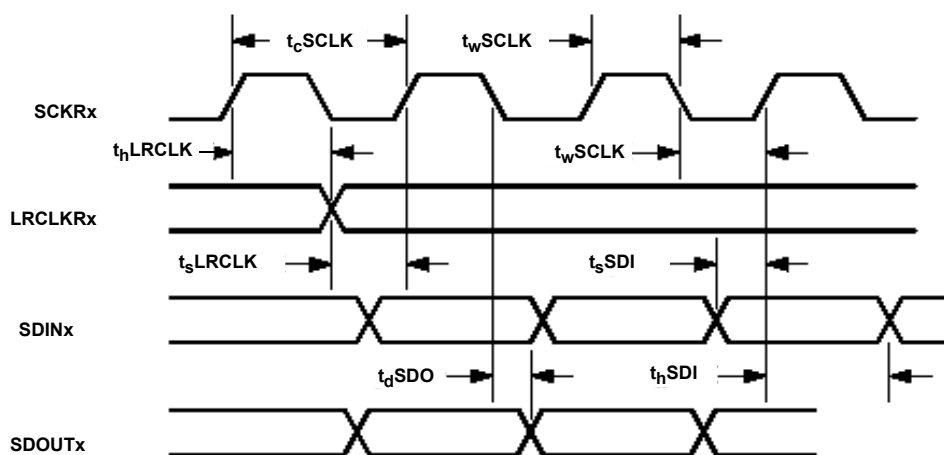

FIGURE 3. SERIAL AUDIO INTERFACE PORT TIMING
**Serial Audio Interface Port Timing** (Figure 3)  $T_A = +25^\circ\text{C}$ ,  $CVDD = PLLVDD = 1.8\text{V} \pm 5\%$ ,  $RVDD = PWMVDD = 3.3\text{V} \pm 10\%$ . All grounds at 0.0V. All voltages referenced to ground.